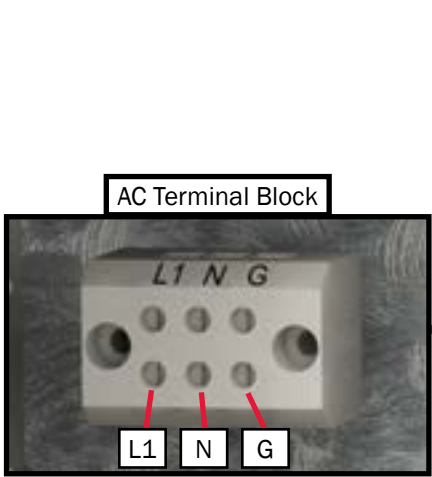

Figure 70
2. Secure the wires into their terminal by tightening the corresponding screw on the terminal block to 5 inch pounds using a slotted screw driver blade no larger than 1/8". See Figure 70 for reference.